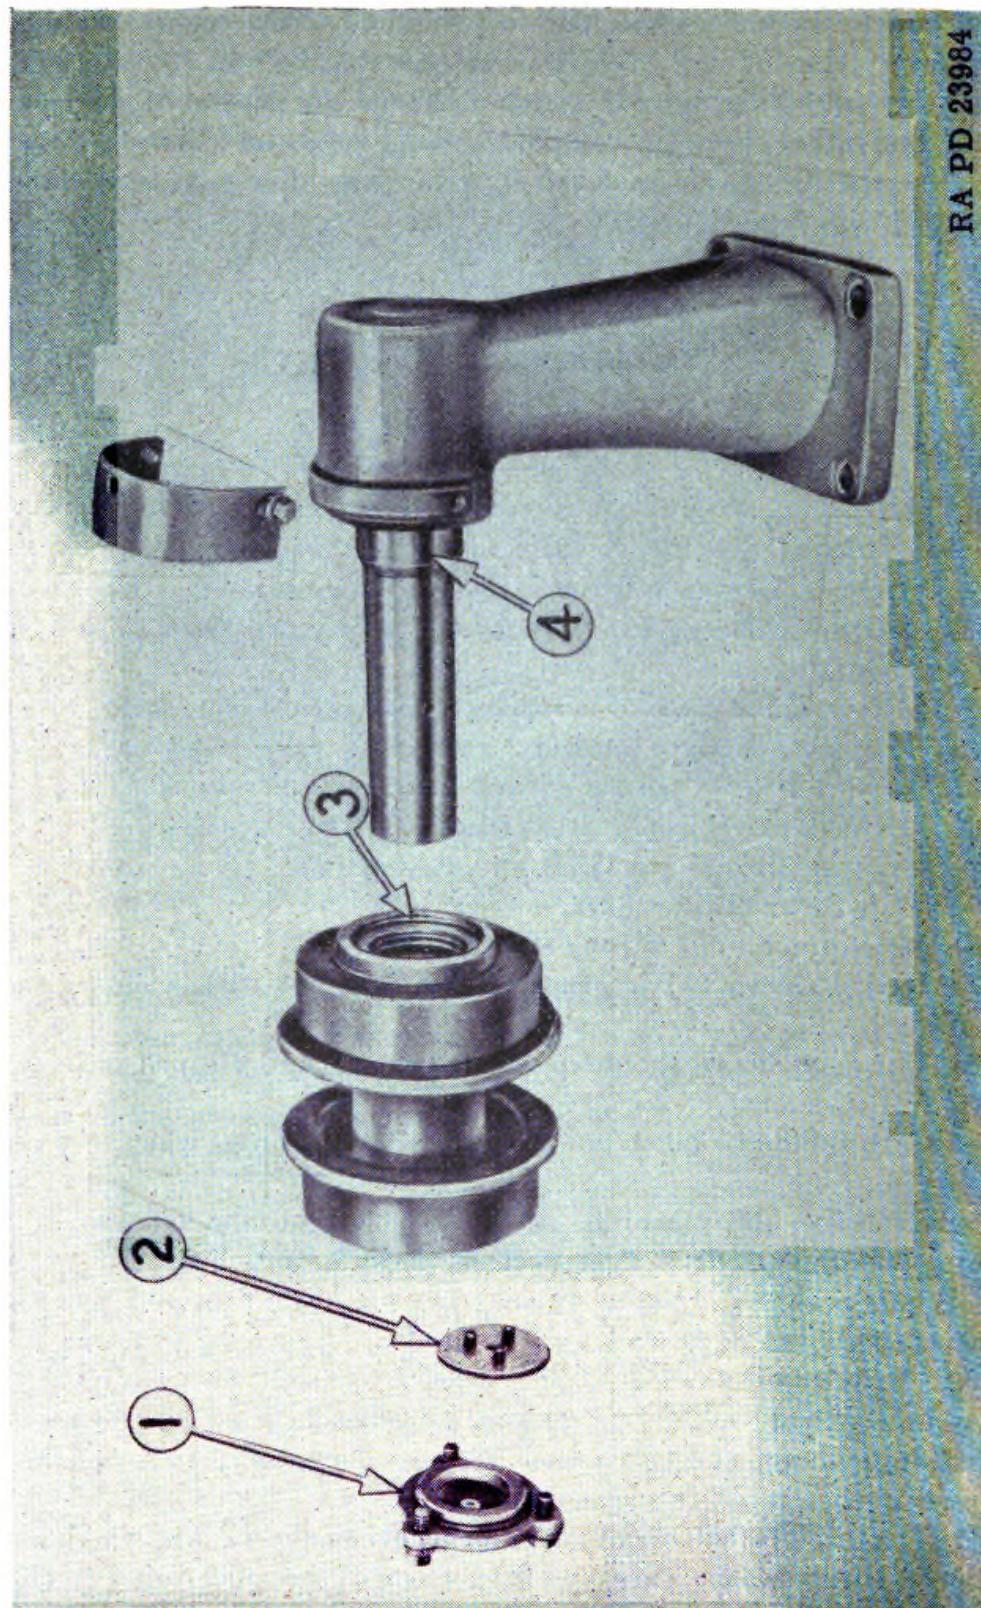
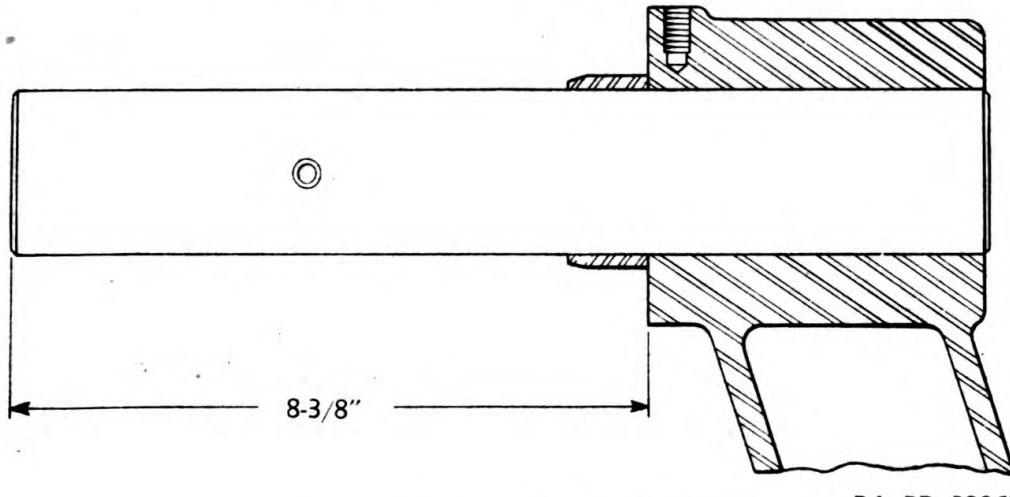

FIGURE 152.—Track carrier roller assembly.
FIGURE 153.—New shaft installation.
(1) Insert a short piece of hardwood 2 inches by 4 inches or a 2-inch diameter pipe between the sprocket and track.
(2) Back up tractor until the track clears carrier rollers.
(3) Remove carrier roller from tractor.
(4) Take off cap (1) (fig. 152) and washer (2).
(5) Slide roller off the shaft.
(6) Note direction of wiping edge on seal (3).
(7) If seal sleeve (4) is grooved, it can be cut with a chisel and removed.
(8) The new sleeve should be heated in oil and slipped onto the shaft.
(9) Care should be taken not to damage the bushings when they are pressed in.
(10) Solvent, dry-cleaning, should be used on the outside of a bushing when pressing it into position.
b. When new shafts are installed, they should be pressed into the brackets to give an $8\frac{3}{8}$ -inch length as shown in figure 153.